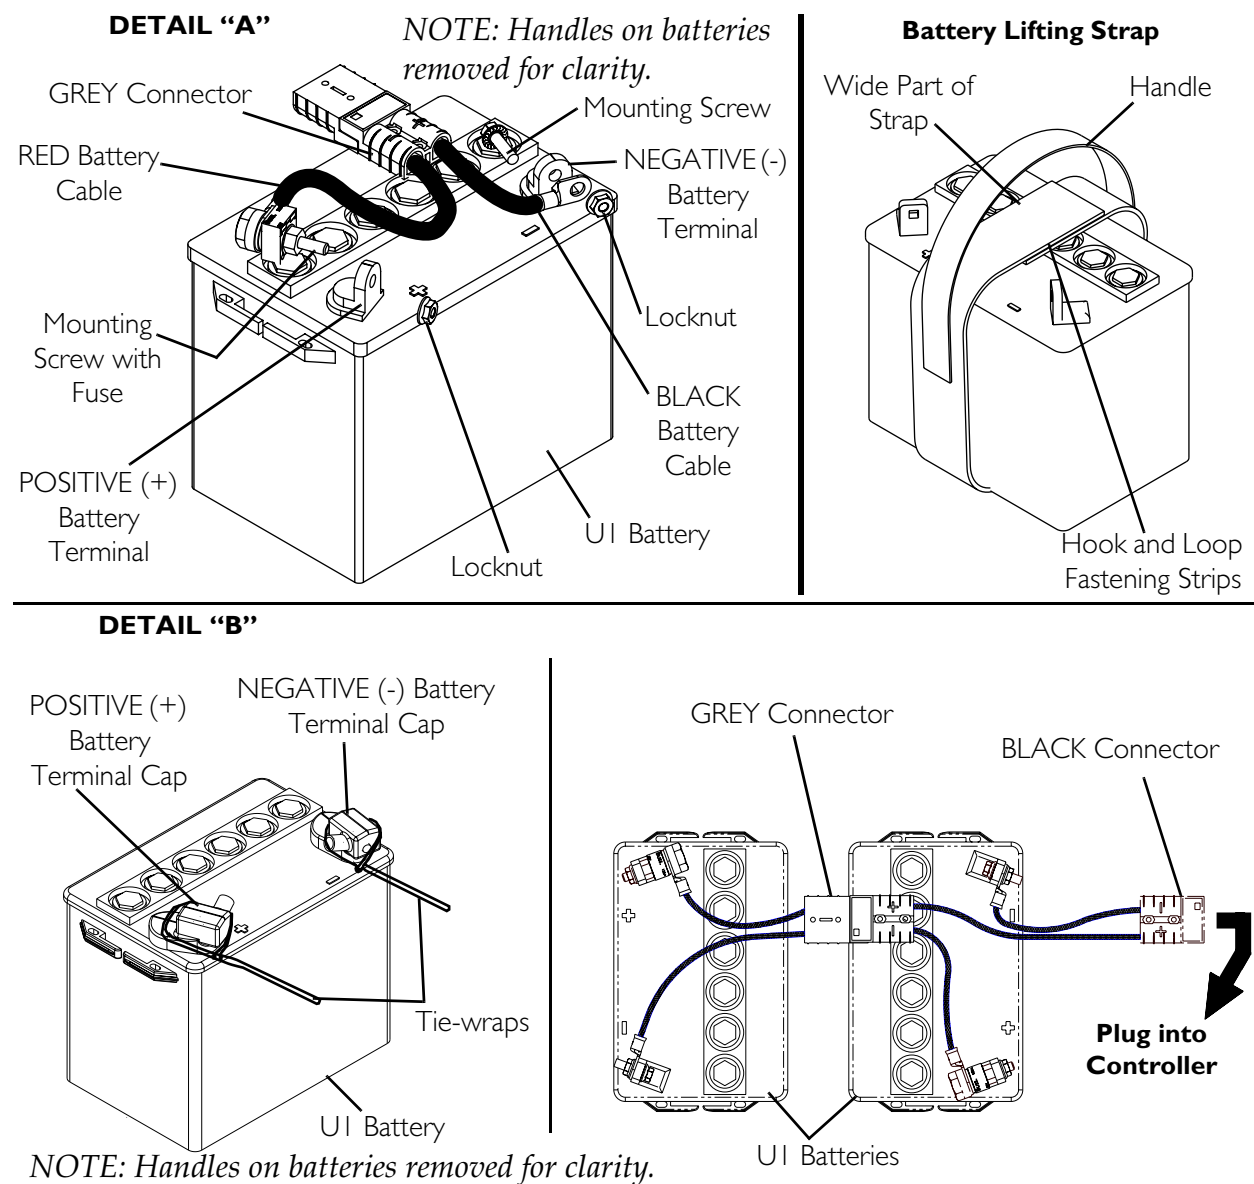

FIGURE 17.3 Connecting/Disconnecting Battery Cables
Battery terminal configuration as shown in **FIGURE 17.3, DETAIL “A”**, **MUST** be used. Batteries that have the terminal configuration reversed **MUST NOT** be used - otherwise serious injury or damage may occur.
When connecting the battery cables to the batteries, the battery cables **MUST be connected to the battery terminals as shown in **FIGURE 17.3, DETAIL “B”**, (depending on battery type), otherwise damage to the battery cable may result when installing battery terminal caps.**
- B. Place the wide part of the lifting strap around the middle of the battery with the hook and loop strips on top, as shown in **FIGURE 17.3**.
2. Secure the battery cables to the battery terminals as described below. Securely tighten. Refer to Detail “A” of **FIGURE 17.3**:
4. Slide terminal cap(s) down battery cables and onto battery clamps (Detail “B” of **FIGURE 17.3**).
5. Secure each terminal cap in place with a tie-wrap [use tie-wraps 11-1/2-inches long] (DETAIL “B” in **FIGURE 17.3**).
6. Cut the tie-wrap that secures the battery terminal cap in place. See Detail “B” in FIGURE 17.3.
8. Disconnect POSITIVE (+) RED battery cable from the POSITIVE (+) battery terminal (FIGURE 17.3).
9. Disconnect NEGATIVE (-) BLACK battery cable from NEGATIVE (-) battery terminal (FIGURE 17.3).